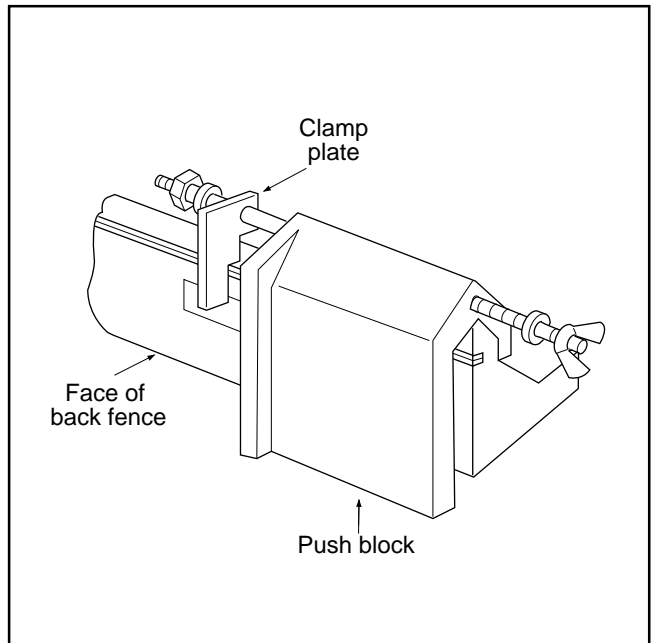

Fig. L.2
1. Mount assembled **Push Block** on the **Back Fence** by aligning retaining rib on **Push Block** with the groove in the face of **Back Fence**. See fig. L.2.